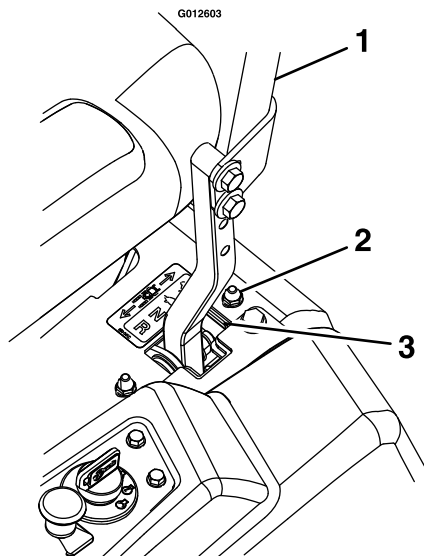

Figure 31
1. Loosen the screws on a cover plate (see Figure 31).